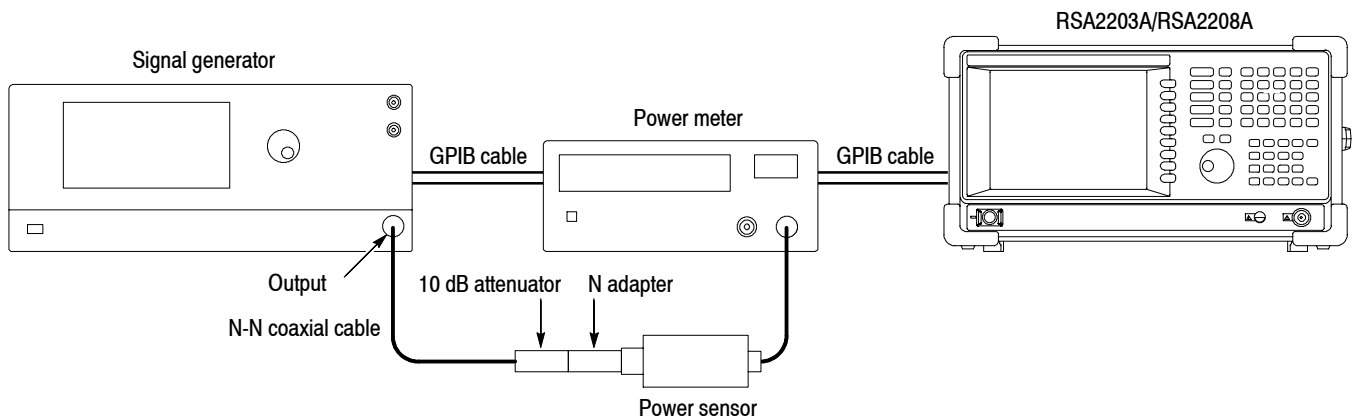

Figure 5-2: Initial test hookup
See Figure 5-2.
- a. *Modify the hookup:* Connect the signal generator output through an N-N coaxial cable followed by a 10 dB attenuator and an N adapter to the power sensor input. See Figure 5-2 on page 5-7 again.